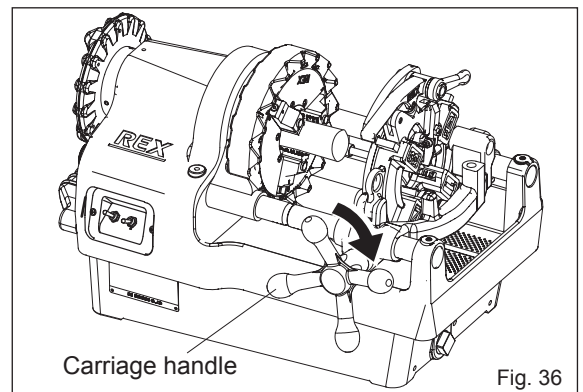

Fig. 36
- Turn the carriage handle to the right to engage the pipe with the dies. Cut 3 or 4 threads and threading will then be performed automatically. (Fig. 36)